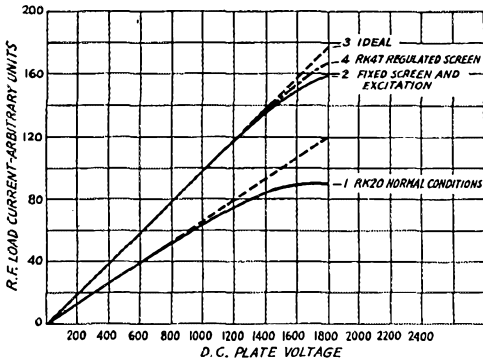

FIG. 2.—TYPICAL OPERATING CHARACTERISTICS OF RK-20 AND RK-47 WITH PLATE MODULATION
On this basis it would seem that there should exist some value of plate voltage at which the ordinary pentode could be plate modulated. Curve (1) in Fig. 2 is a plot of the output of a Type